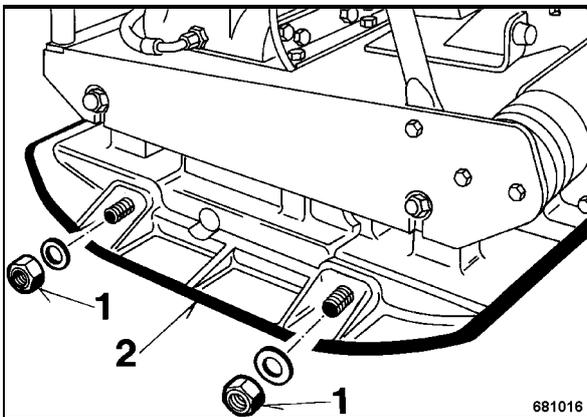

Fig. 74
- Refit the extension plates 2 (Fig. 74). Cover the fastening nuts (1) with OKS 240 copper paste and tighten them with 900 Nm.